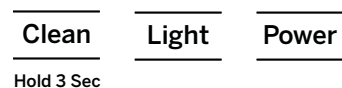

Figure 12
- When complete, fill unit with fresh water and press the 'Power' button to start making ice. See figure 12.